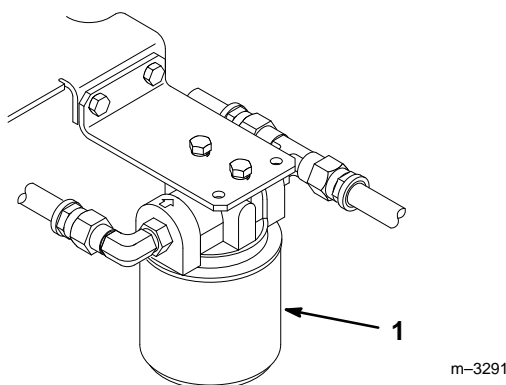

Figure 35
3. Place drain pan under filter, remove the old filter and wipe the filter adapter gasket surface clean (Fig. 35).